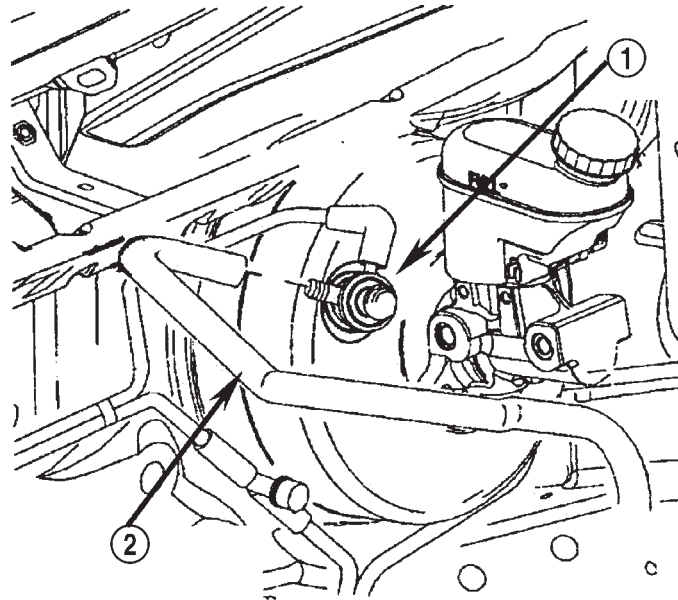

FIGURE 2
4. Disconnect the brake booster vacuum hose from the check valve on the brake booster (Figure 2). Do not remove the check valve from the brake booster.
7. Connect the brake booster vacuum hose to the check valve on the brake booster (Figure 2) or to the inline hose connector (Neon R/T vehicles).